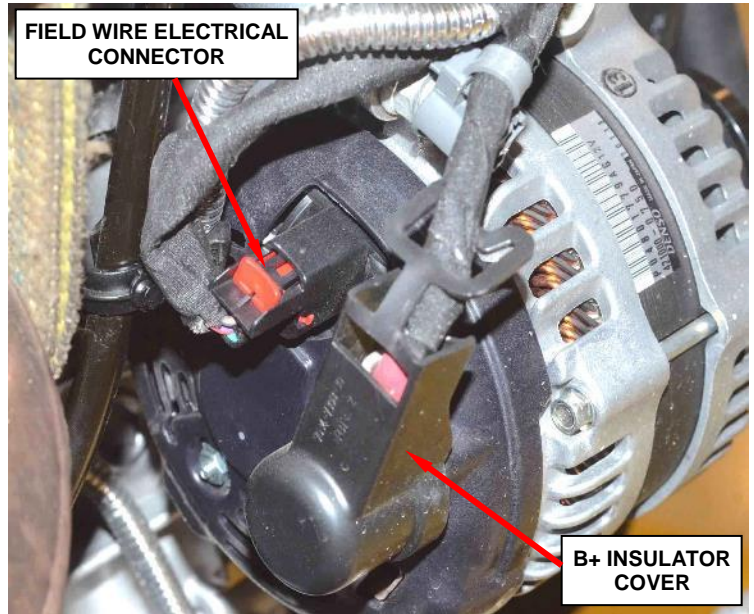

Figure 3 – Alternator Electrical Connections
4. Remove the insulator cover from the B+ output terminal at the rear of the alternator (Figure 3).
6. Depress the field wire electrical connector tab at the rear of the alternator and disconnect the field wire electrical connector (Figure 3).